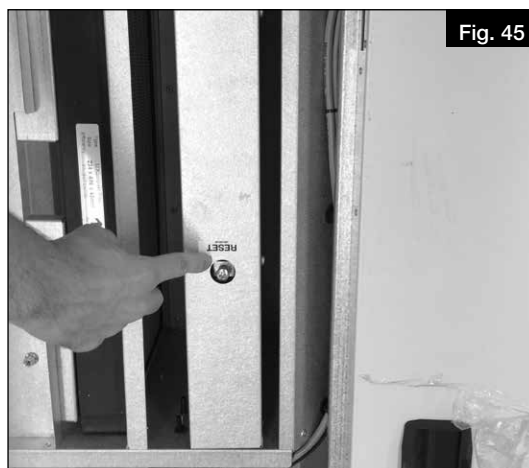

Fig. 45
2. Press the reset button to reset the Press the reset button to reset, see Fig. 45.